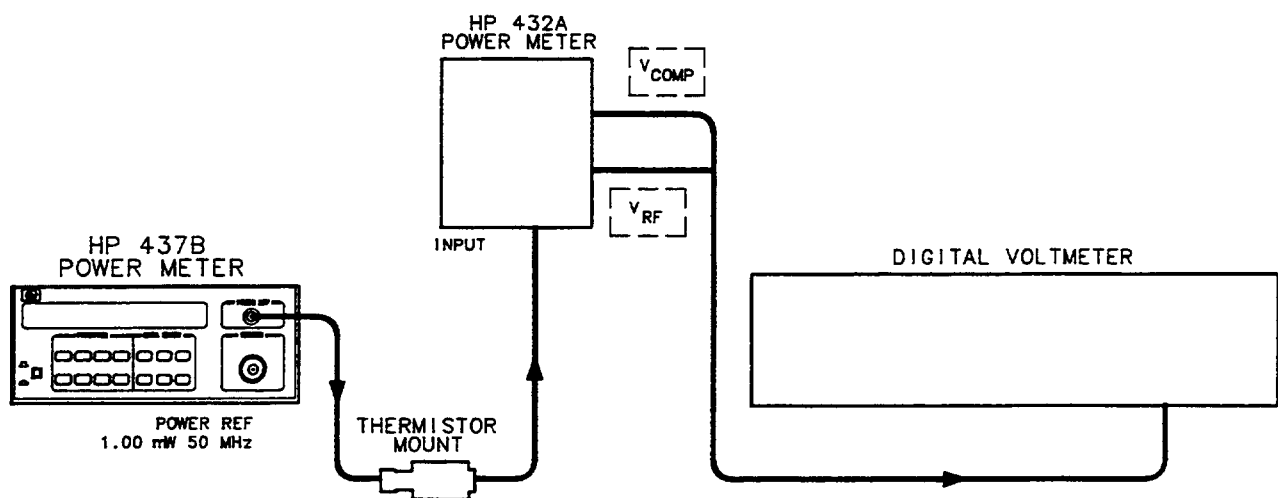

Figure 5-4. Power Reference Oscillator Level Adjustment Setup
3. Connect the test power meter to the Power Meter as shown in Figure 5-4.